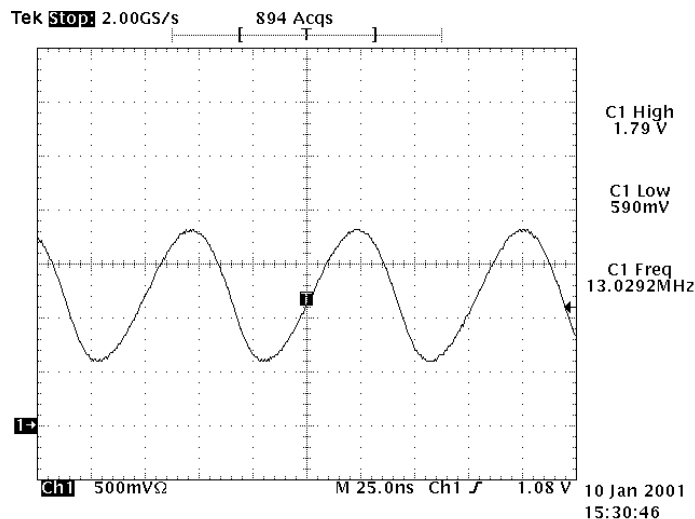

Figure 18. 13 MHz sine wave
1. Open the smaller RF shield metal can. Check Hagar RFC–out signal at V800. It should show sine wave of 1.2V amplitude, 13MHz frequency (see Figure 18 ).